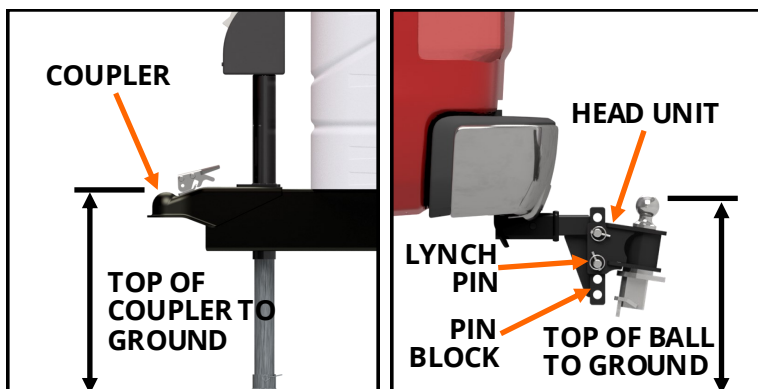

FIGURE B1: Side view of trailer. FIGURE B2: Side view of tow vehicle.
1. **Configure and install head unit.** Determine in which position the head unit should be pinned. Measure the distance from the ground to the top of the trailer ball coupler, **see Figure B1**. Place the head unit into the receiver of the tow vehicle. Measure how high the ball is above the ground, **see Figure B2**. The ball should be set **1-2" higher** than the coupler measurement. Remove the head unit and adjust the pins to set the ball height correctly. The holes in the pin blocks are 1-1/2" apart. If required, the pin block can be turned over.